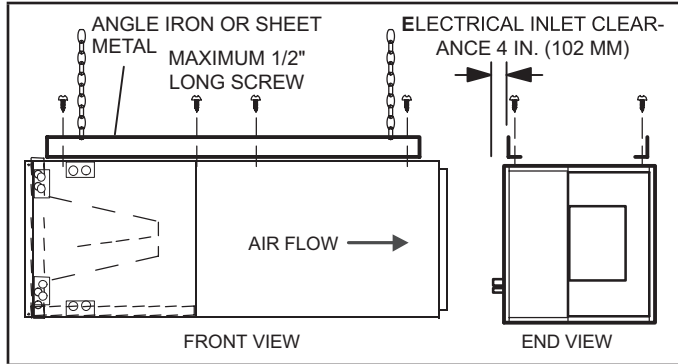

FIGURE 3. Suspending Horizontal Unit
- If the unit is suspended, the entire length of the cabinet must be supported. If you use a chain or strap, use a piece of angle iron or sheet metal attached to the unit (either above or below) to support the length of the cabinet. Use securing screws no longer than 1/2 inch to avoid damaging the coil or filter. See figure 3. Use sheet metal screws to connect the return and supply air plenums as required.
- 11 - If suspending the unit, it must be supported along the entire length of the cabinet. If using chain or strap, use a piece of angle iron or sheet metal attached to the unit (either above or below) so that the full length of the cabinet is supported. Use securing screws no longer than 1/2" to avoid damage to coil or filter, as illustrated in figure 3. Connect return and supply air plenums as required using sheet metal screws.